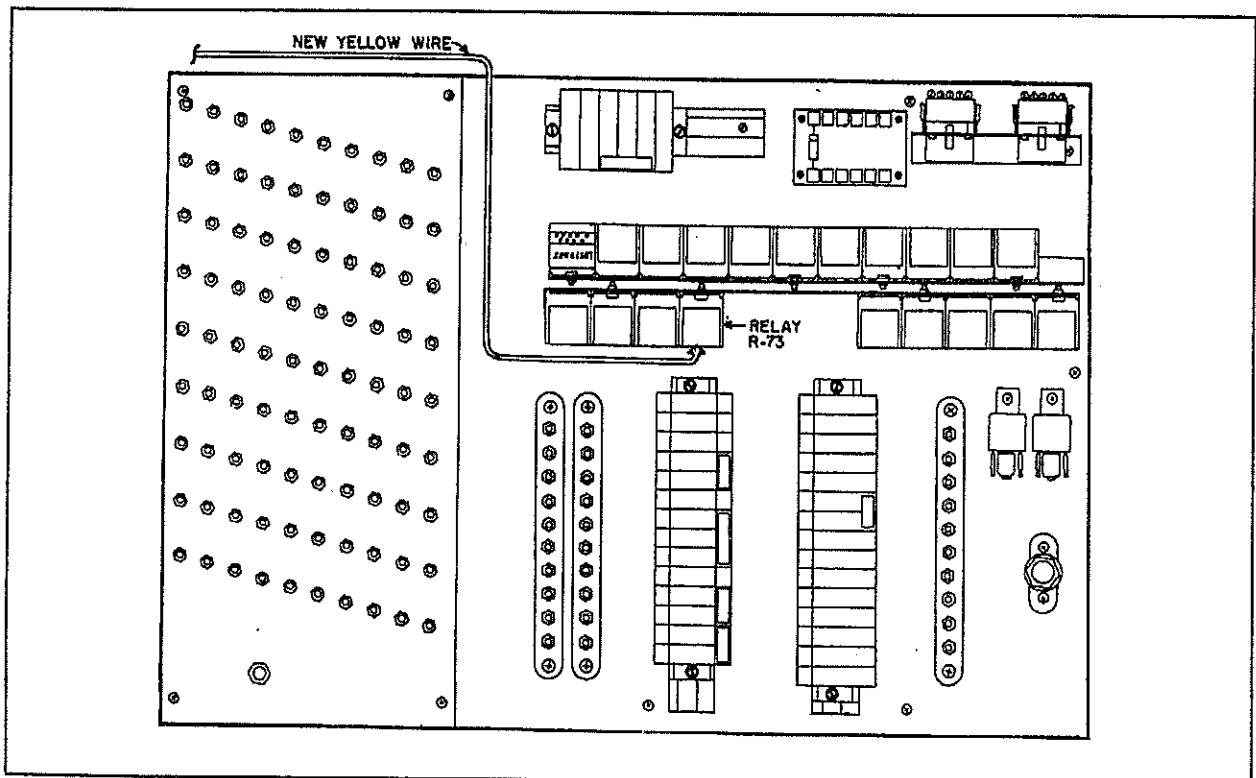

Fig. 5 - Front electric compt.
8. Insert wire in the front electric compartment through the grommet fixed in the left wall, then route it to relay R-73. Refer to figure 5.